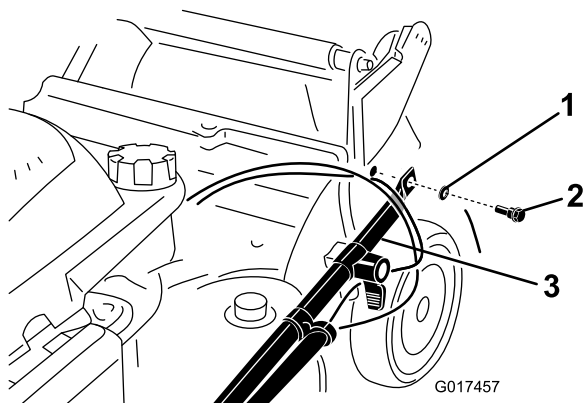

Figure 4
2. Attach the handle ends to the machine housing with 2 washers and 2 handle bolts (Figure 4), **but do not tighten the handle bolts.**
Important: Route the cables to the *outside* of the handle (Figure 4).